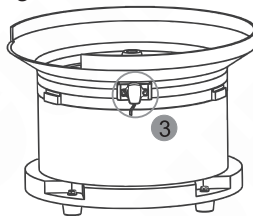

Fig. 3
- Method 3: weld a bracket on the vibrator and fix the vibration sensor on the bracket. As shown in Fig. 3